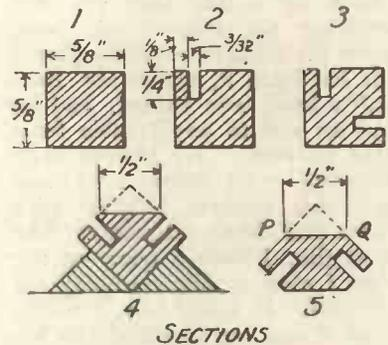

Fig 6.—Preparation of the corner ribs.
As previously mentioned, these are of silver spruce and should be cut from lengths, if possible, not less than 6 ft. 6 in., as difficulty may otherwise be experienced in bending. Fig. 6 (2) shows the method of cutting the ribs to the
If a little care is exercised the bending can be carried out dry, that is to say, steaming is unnecessary. The method is as follows. Commence by holding the rib near the middle with the hands about 12 in. apart and the thumbs pointing inwards, and pressing on the side represented by PQ, Fig. 6, Section 5. Now apply a bending action with the hands in a manner which will bring the concave side of the rib nearest you, that is to say, the two grooves will be on the outside of the curve. Release the pressure on the hands, and repeat the process several times, each time straining the wood a little more. The process must be carried out steadily, and the wood should only be strained a little each time, otherwise folding of the fibres will occur on the inside, which may ultimately result in fracture. When the centre is sufficiently curved the hands should be shifted along, and the process repeated for the entire length. It is most important that each rib should be bent to the correct curvature before finally attempting to assemble the various parts. The curvature should constantly be tested during